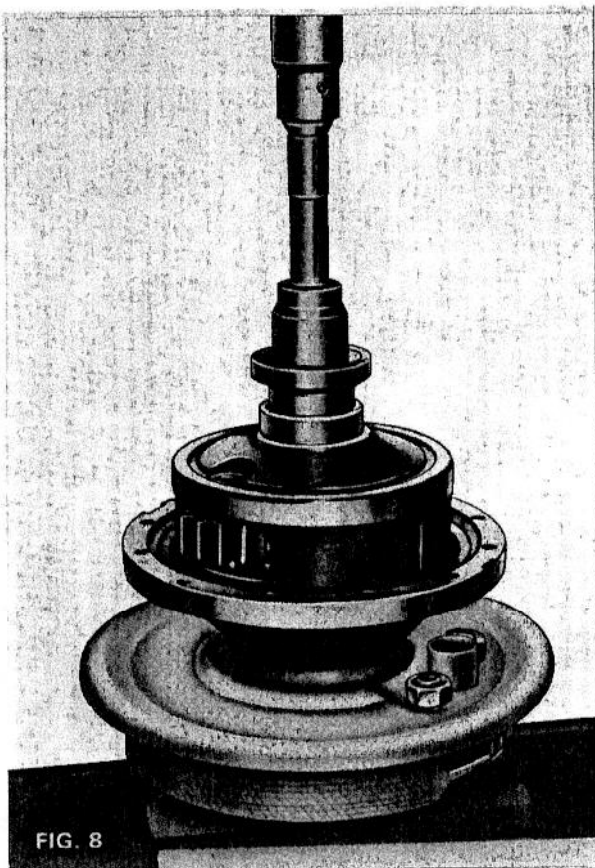

FIG. 8
1. (Fig. 8) Place the roller bearing squarely onto the carrier.